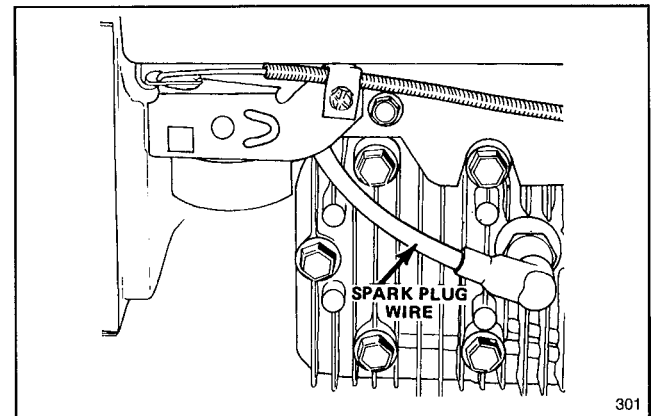

Figure 14
2. Push spark plug wire onto spark plug (Fig. 14).
1. Stop engine and pull wire off spark plug (Fig. 14). Remove key from switch on electric start model.
1. Stop engine and wait for engine to cool. Pull wire off spark plug (Fig. 14). Remove key from switch on electric start model.